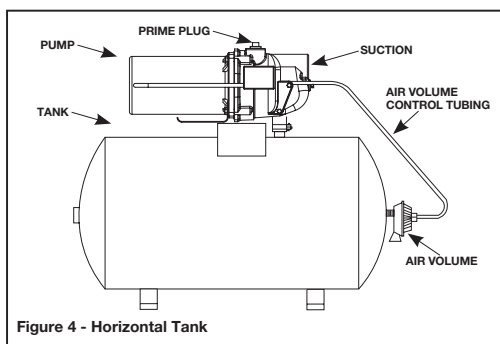

Figure 4 - Horizontal Tank
1. Remove prime plug (Figure 4).